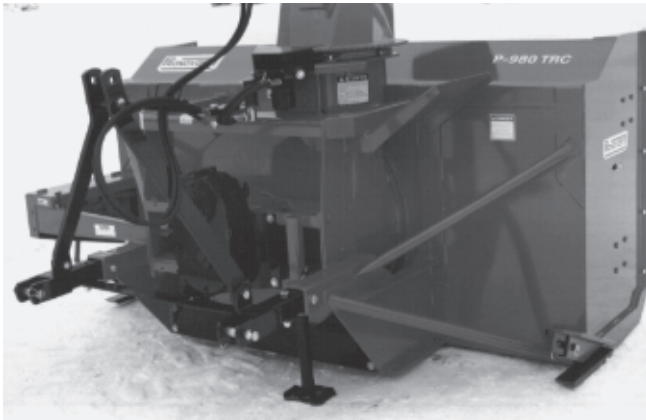

Figure 16
- 2) Install the 3-point hitch system according to the model of your Snowblower. (See section 10 for parts numbers). Use the holes that are most convenient to the type of tractor used (Fig. 16).